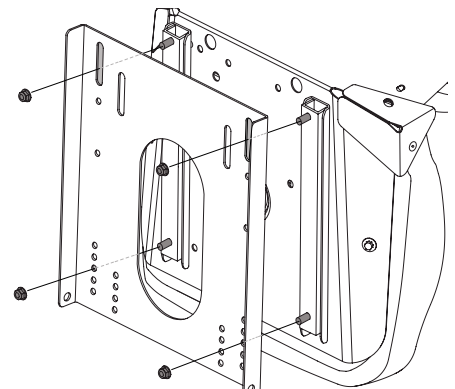

Figure 2-11
2. Using the four provided bolts (a), install the seat onto the seat pan. Place the screws (b) on the front of the seat through the middle hole in the seat pan (c) as shown in Figure 2-11. Securely tighten the seat to the seat pan.